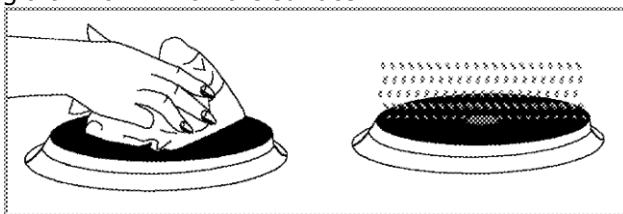

Figure 12
- ❖ In necessary, clean electric stove partitions by following the general warnings. **(See figure 12)**